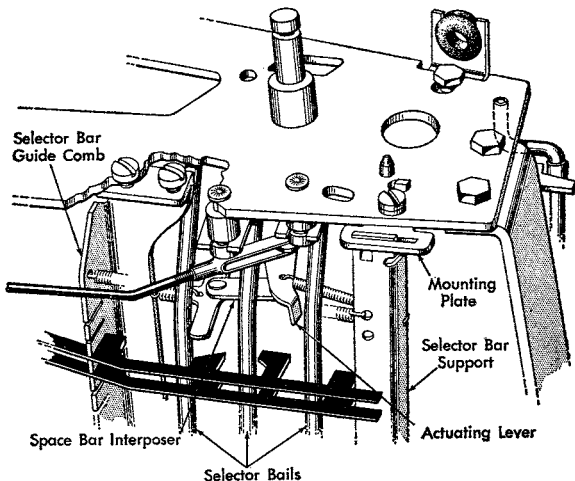

Figure 2. Selector Bar Adjustments
3. SELECTOR BAR SUPPORT MOUNTING PLATES Adjust up or down so that the selector bars just clear the bails in the lower case position (Figure 2).
4. SELECTOR BAR GUIDE COMB. Raise this as high as possible and lock it in place (Figure 2). This should allow free travel of the selector bars.